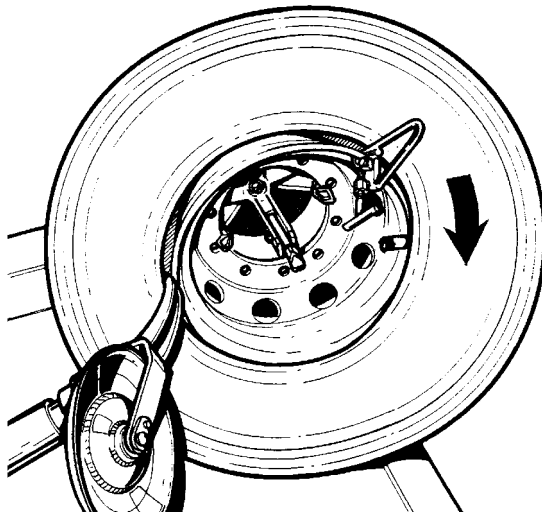

Fig.34
4. Re-attach the mounting clamp to the rim flange with the valve forward of the mounting clamp (fig.34).